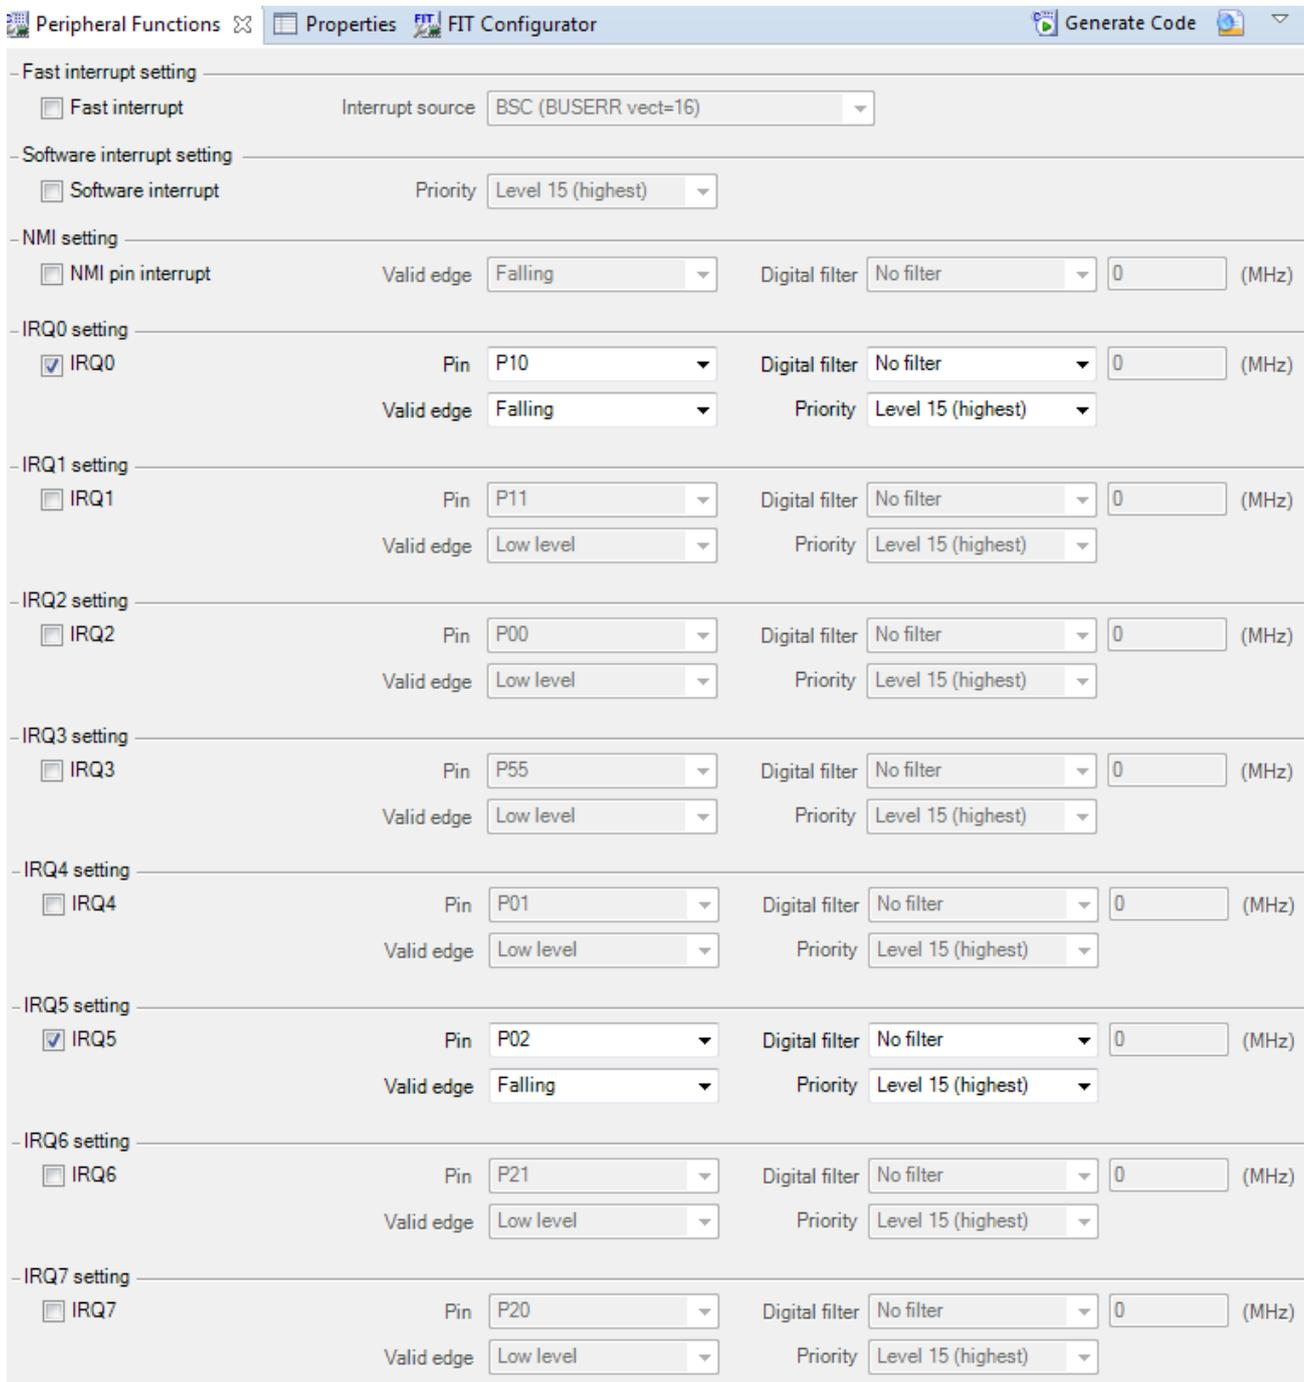

**Figure 4-3 Clock setting tab**
**Figure 4-3** shows a screenshot of Code Generator with the Clock Generator function open. Click on the 'Clock setting' sub tab. Configure the system clocks as shown in the figure. In this tutorial we are using the on board 20 MHz crystal resonator for our main clock oscillation source and the PLL circuit is in operation. The PLL output is used as the main system clock and the divisors should be set as shown in **Figure 4-3**.